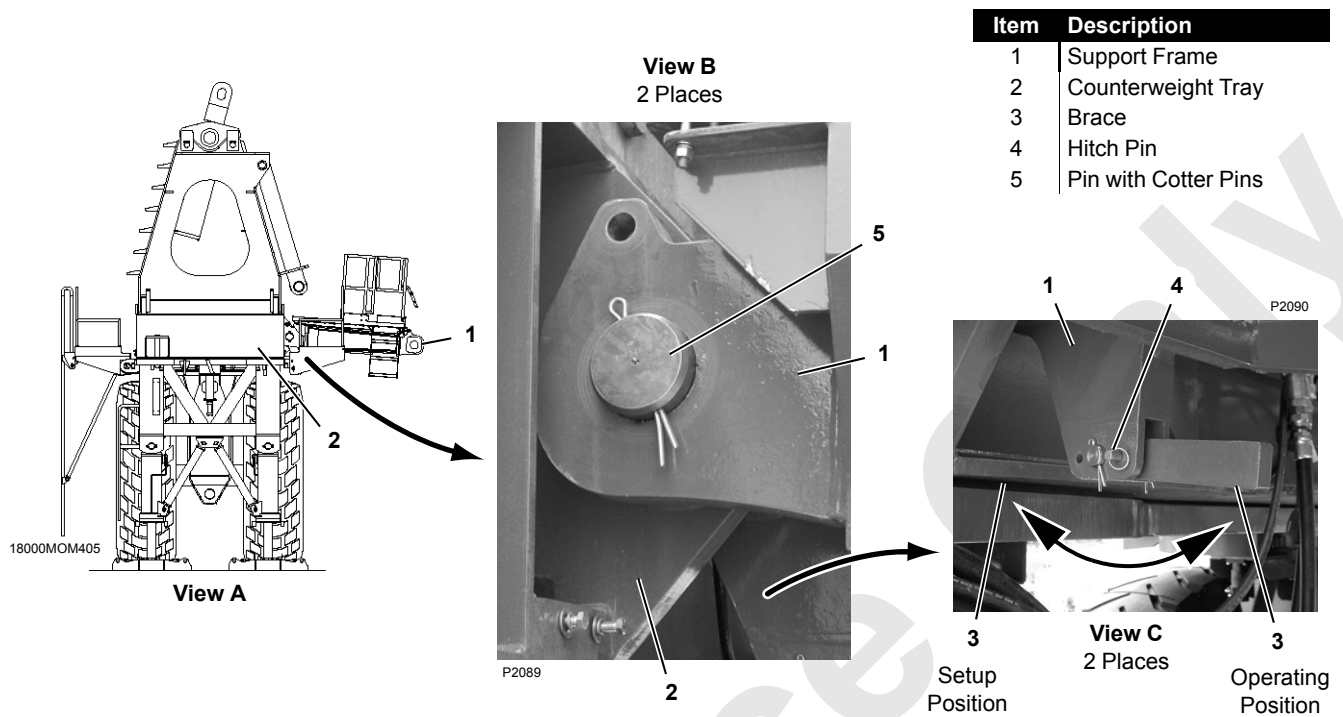

FIGURE 4-7
See Figure 4-7 for the following procedure.
13. Rotate railing (6, View E) to operating position and pin struts (7) to rear of rotating bed.
14. Rotate and pin braces (3, Figure 4-7 View C) in operating position. ***Damage will occur if you don't perform this step.***